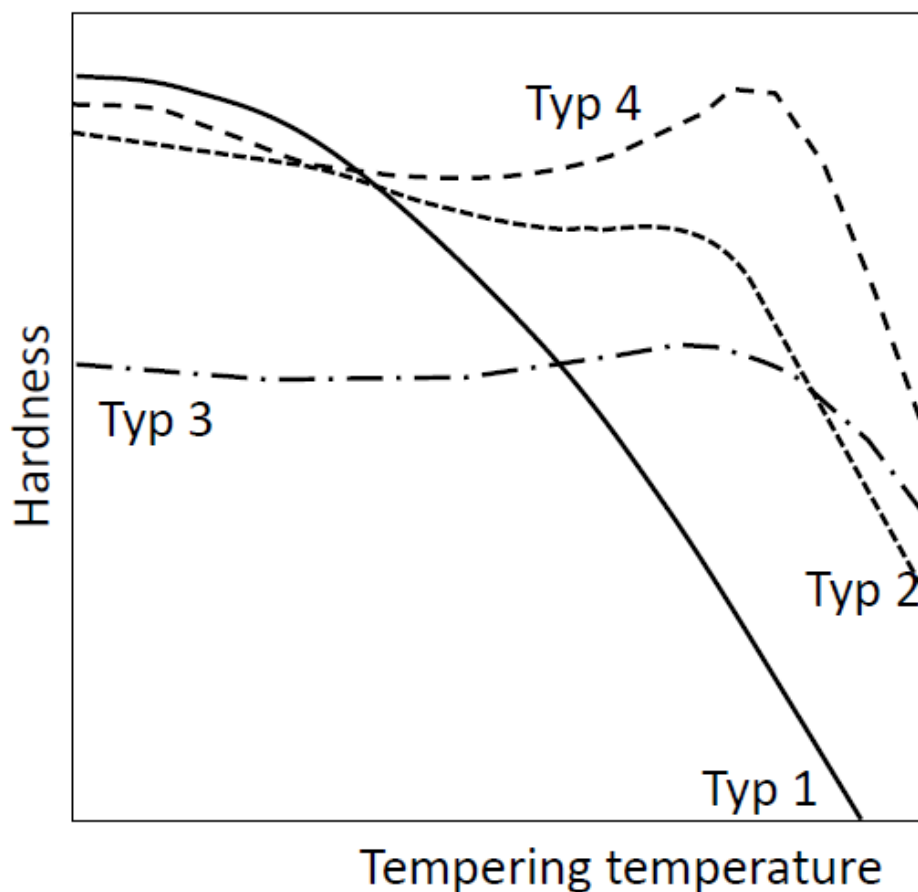

Figure 1: Tempering resistance of different tool steels
- b) Match the curves given in Figure 1 with the tool steel grades described in task a). (2 Points)